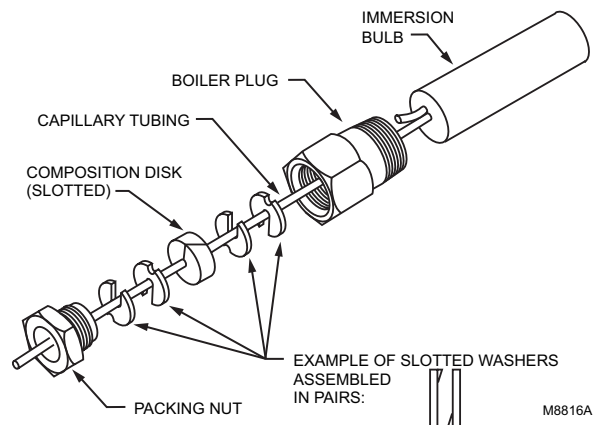

Fig. 11. Capillary compression fitting. Use with L4008.
The remote temperature-sensing bulb can either be installed in an immersion well (See Fig. 8) that extends into the boiler or tank, or it can be directly immersed in the controlled medium (See Fig. 9). For installations that do not use a well, secure the remote bulb with a bulb compression fitting (See Fig. 10), or capillary compression fitting. (See Fig. 11).
4. Place the composition disk and four slotted brass washers on the tubing in the order shown in Fig. 11. Turn the brass washers so the slots are 180 degrees apart.